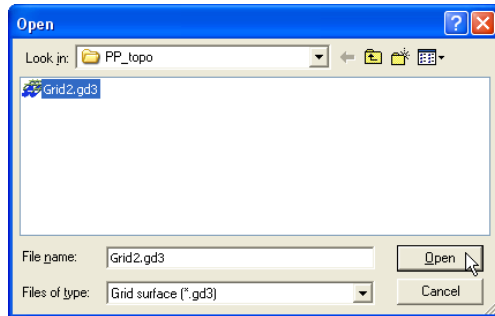

Figure 8-11. Open Grid File
3. On the **Open** dialog box, navigate to the location of the file, select the file type as Grid surface (*.GD3), select the desired file, and click **Open** (Figure 8-11).